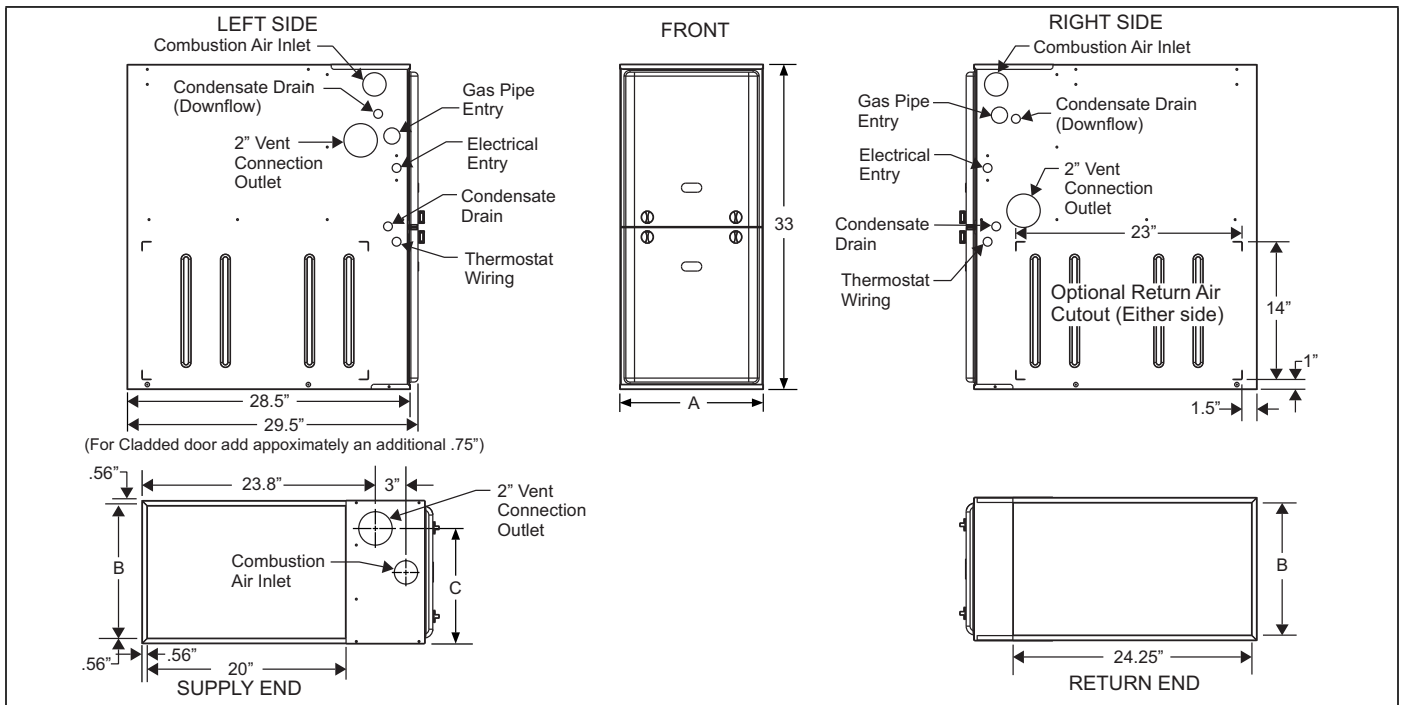

FIGURE 13: Dimensions
*Some accessories such as electronic air cleaners and pleated media may require a larger side opening. Follow the instructions supplied with that accessory for side opening requirements. Do not cut the opening larger than the dimensions for the "Optional Return Air Cutout" shown in Figure 13.*
Gas piping may be connected from either side of the furnace using any of the gas pipe entry knockouts on both sides of the furnace. Refer to Figures 13 and 16.